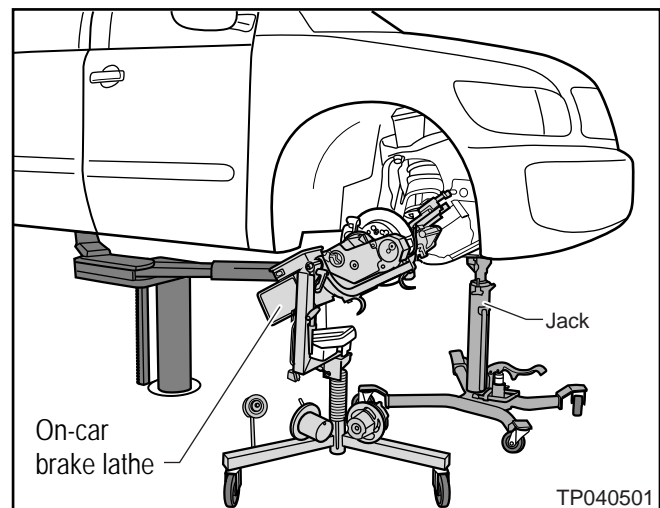

Figure 4
B. For best accuracy, "stabilize" (firmly support) the vehicle with a jack or jack stand as shown in Figure 4.